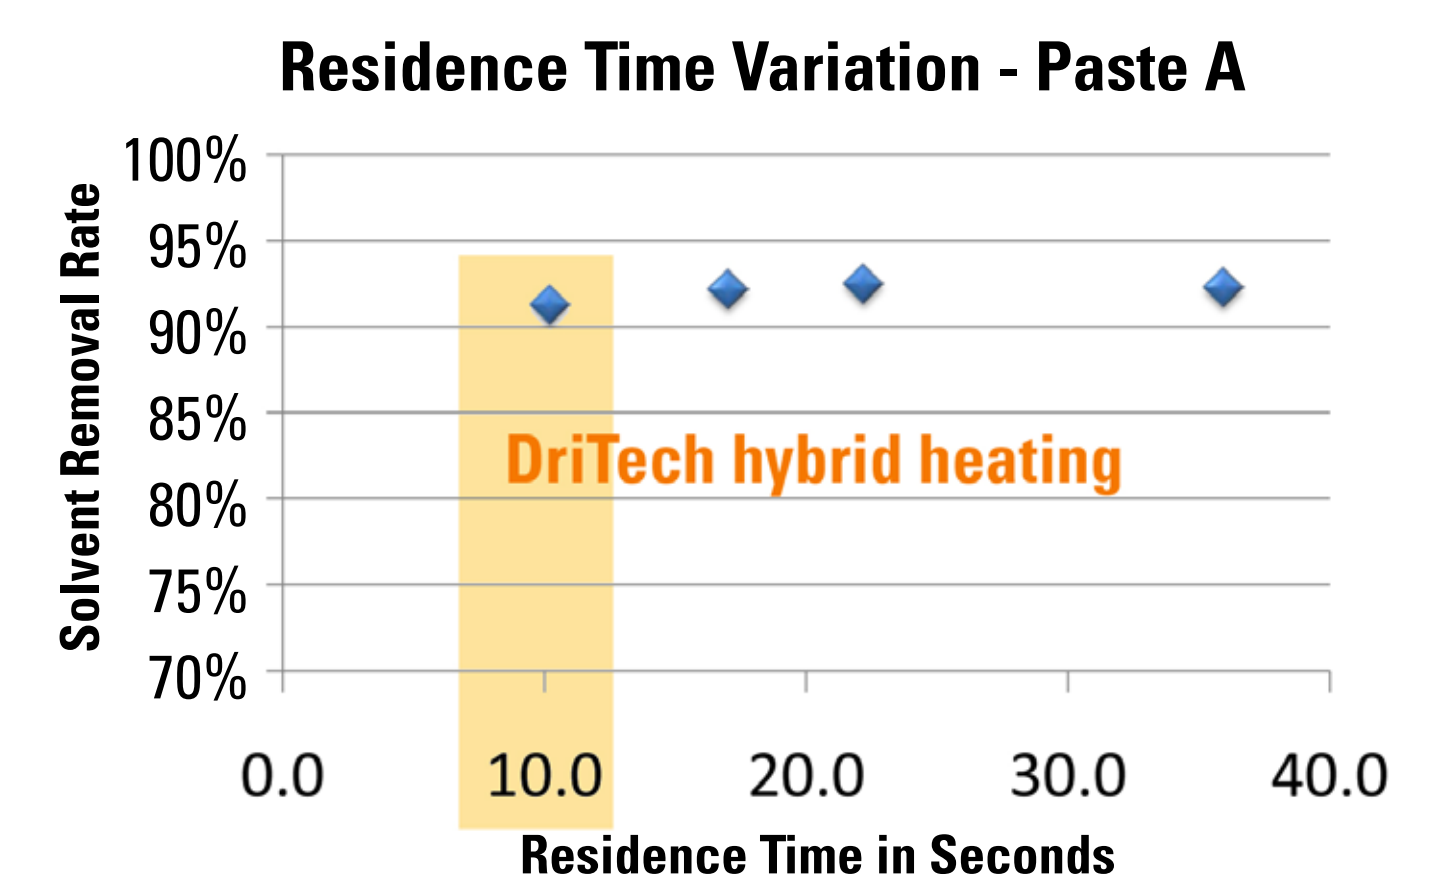

Figure 5: Impact of residence time on solvent removal rate for difficult to dry Paste A with novel DriTech hybrid heating
- ◆ DriTech : Minimum residence time 10s (=belt speed 12700 mm/min) (figure 5)